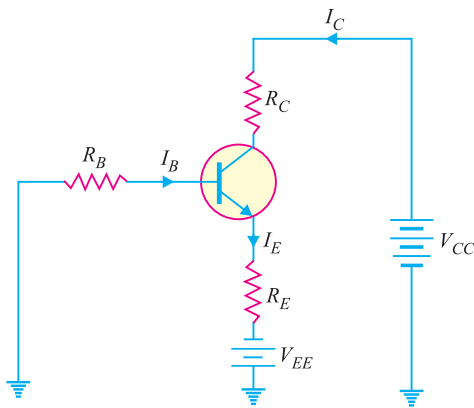
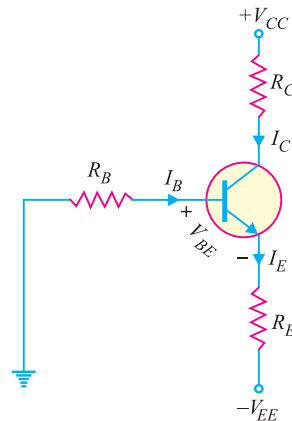

Fig. 9.15
Fig. 9.16
Fig. 9.15 shows the emitter bias circuit. This circuit differs from base-bias circuit in two important respects. First, it uses two separate d.c. voltage sources; one positive ( $+V_{CC}$ ) and the other negative ( $-V_{EE}$ ). Normally, the two supply voltages will be equal. For example, if  $V_{CC} = +20V$  (d.c.), then  $V_{EE} = -20V$  (d.c.). Secondly, there is a resistor  $R_E$  in the emitter circuit.
We shall first redraw the circuit in Fig. 9.15 as it usually appears on schematic diagrams. This means deleting the battery symbols as shown in Fig. 9.16. All the information is still (See Fig. 9.16) on the diagram except that it is in condensed form. That is a negative supply voltage  $-V_{EE}$  is applied to the bottom of  $R_E$  and a positive voltage of  $+V_{CC}$  to the top of  $R_C$ .
Fig. 9.16 shows the emitter bias circuit. We shall find the Q-point values (*i.e.* d.c.  $I_C$  and d.c.  $V_{CE}$ ) for this circuit.
(i) **Collector current ( $I_C$ ).** Applying Kirchhoff's voltage law to the base-emitter circuit in Fig. 9.16, we have,
**Alternatively.** Applying Kirchhoff's voltage law to the collector side of the emitter bias circuit in Fig. 9.16 (Refer back), we have,